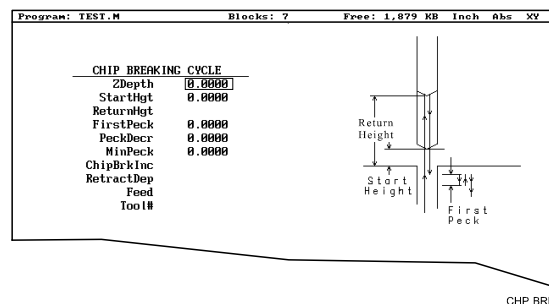

Figure 5-4, CHIP BREAKING CYCLE Graphic Menu
2. Highlight **Chip Break**, and press **ENTER** to display the **CHIP BREAKING CYCLE** Graphic Menu. Refer to **Figure 5-4**.